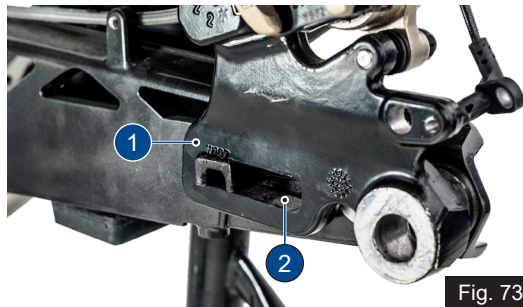

Fig. 73
- Place the brake-caliper (1) on the guide (2) of the swing arm as shown (ref. Fig. 73).